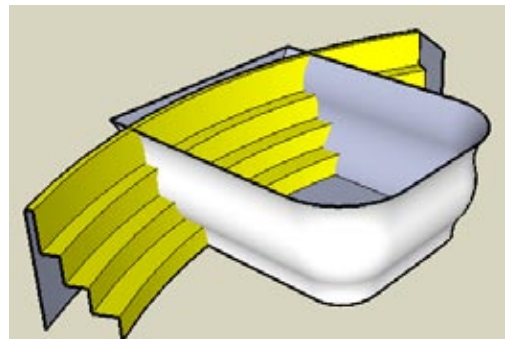

Figure 4-68
6. The Follow Me path for this face is another extended path, going past the back of the tub steps, so the curved walls will be easy to trim behind the steps. Select all of the top edges of the box as the Follow Me path (not including the edge along the back face) and run Follow Me on this face. This creates the curvy walls of the hot tub. If you have extra vertical faces around the tub, erase them (Figure 4-68).